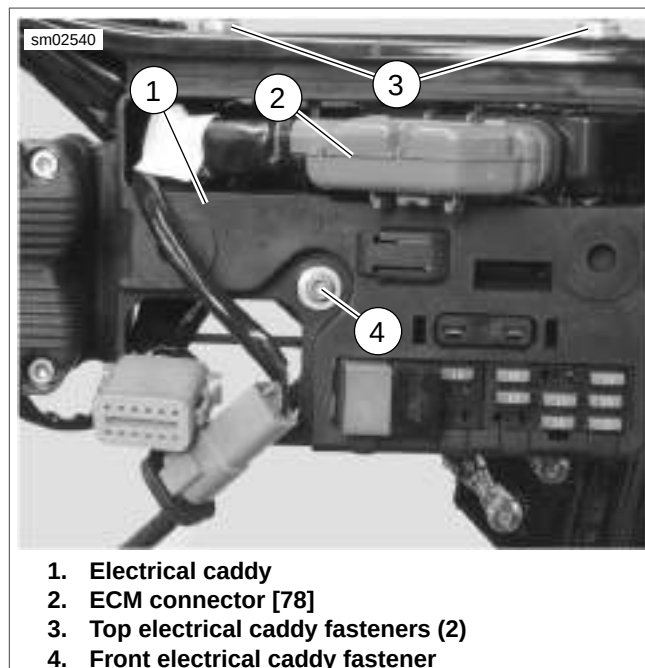

Figure 7-4. Electrical Caddy Fasteners
8. See Figure 7-4. Disconnect electronic control module (ECM) connector (2) [78].
11. Remove front electrical caddy fastener (4).
12. Remove top electrical caddy fasteners (3).
6. See Figure 7-4. Install but do not tighten electrical caddy front fastener (4).
7. Install electrical caddy top fasteners (3). Tighten to 90-110 **in-lbs** (10.2-12.4 Nm).